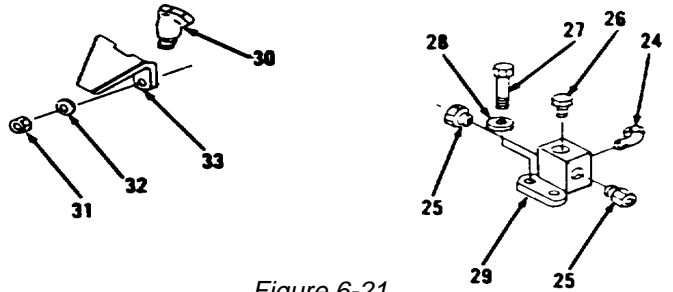
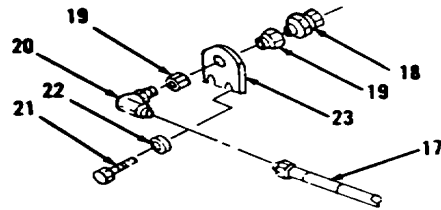

Figure 6-21.
Figure 6-20.
15. Install two guards (33), four washers (32), nuts (31) and two elbows (30, Figure 6-21).
16. Install block (29), two washers (28), bolts (27), plug (26), two connectors (25) and elbow (24).
17. Install plate (23), two washers (22) and bolts (21, Figure 6-20).
18. Install elbow (20), two fittings (19) and connector (18) under front, right side of engine compartment.
19. Install hose assembly (17).